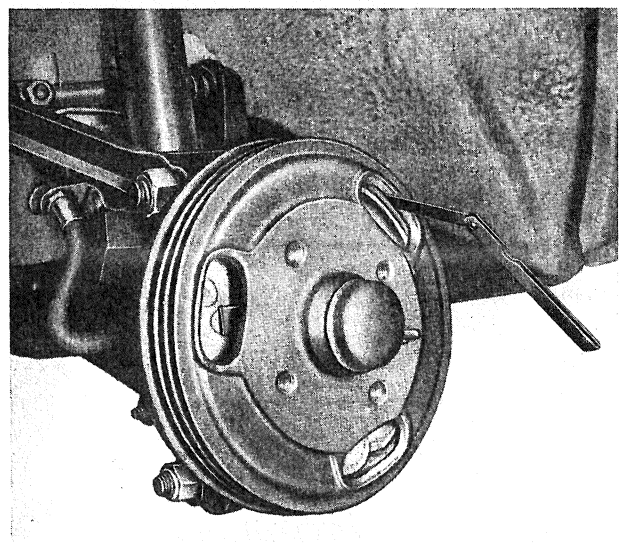

Fig. 365 - Checking shoe-to-drum clearance on front right wheel using feeler gauge C. 114, «Sedan», (hinged type shoes).
1) Through drum slots insert the .0098" (0,25 mm) feeler blade of gauge C. 114 (fig. 365) between shoe and drum, in correspondence with the upper eccentric cams.